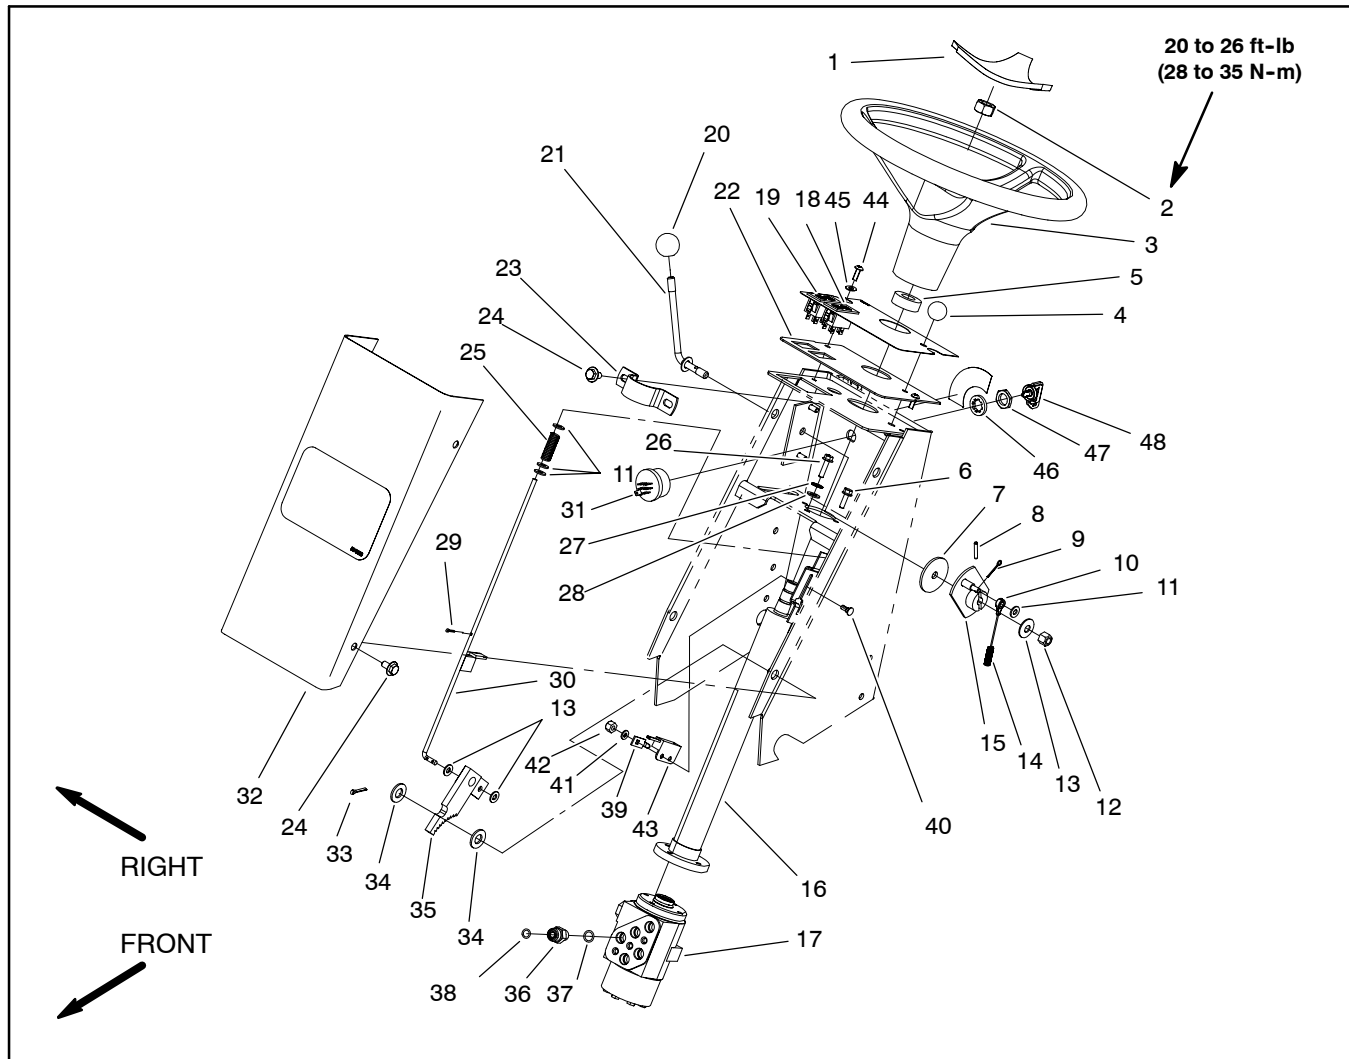

Figure 2
2. Disassemble steering tower as needed using Figure 2 as a guide.
1. Assemble steering tower using Figure 2 as a guide.